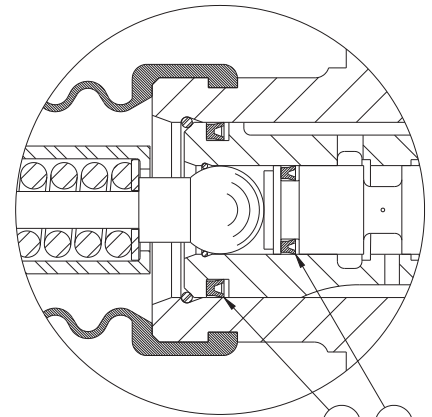

Figure 2a
1. Install new cup (13) on sleeve/piston (15) and new cup (10) on spool (11). Note direction of cups (10 & 13). See Figure 2a.
2. Install new piston ring (14) on sleeve/piston (15).
3. Install new o-ring (16) on end plug (17). Install end plug (17) in sleeve/piston (15) and torque 10.9-13.6 N·m (8-10 lb·ft).
4. Install spring (12) and spool (11) in sleeve/piston (15). Note direction of spool (11).
5. Install push rod (9) and new retaining ring (8) in sleeve/piston (15). **NOTE: Be careful not to scratch or mar sleeve/piston (15) bore.**
6. Carefully install assembly (6) into housing (5). Be sure groove in sleeve/piston (15) aligns with plug (3) hole.
7. Install new o-ring (4) on plug (3). Install plug (3) in housing (5) and torque 10.9-13.6 N·m (8-10 lb·ft). Be sure plug is aligned with groove in sleeve/piston (15).
8. Install new o-ring (19) and new seal (18) on piston assembly (20).
9. Install new check valve (22), spring (21), and new piston assembly (20) in end cap (23). **NOTE: Be sure check valve (22) is properly positioned in end cap (23). Not all models use check valve (22). See TABLE 1.**
10. Install new o-ring (24) on plug (25). Install plug (25) in end cap (23) and torque 10.9-13.6 N·m (8-10 lb·ft).
11. Place new gasket (7) on mounting face of end cap (23). Assemble end cap (23) and components therein to housing (5) using lock washers (26) and cap screws (27). Torque cap screws (27) 27.1-29.8 N·m (20-22 lb·ft).